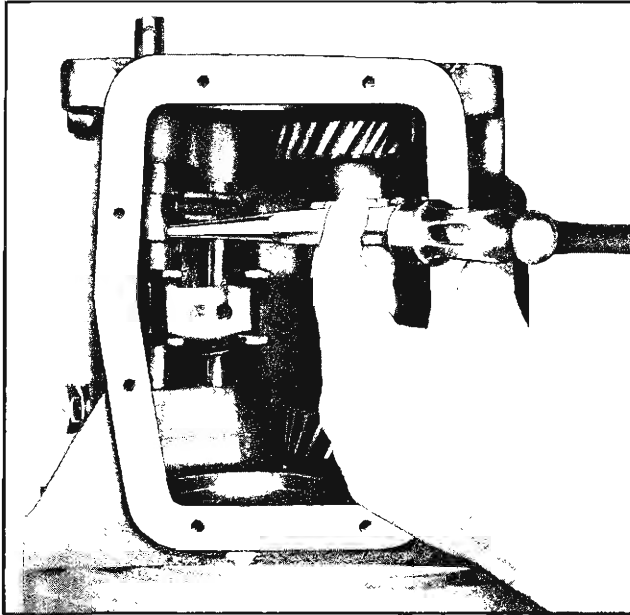

Fig. 7-37 Installing Roll Pin
13. Start roll pin into fork. Insert second and third shift fork shaft through front of case with three detents facing away from interlock, and slip fork onto shaft. Secure shift fork to shaft with roll pin (Fig. 7-37).